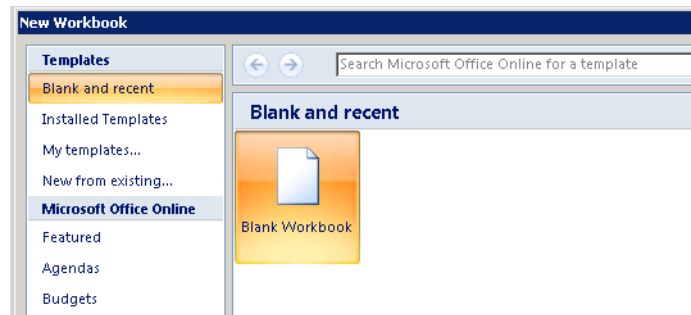

Figure 167. Creating a New Workbook in Excel
1. Launch Microsoft Excel and create a new workbook, Figure 167.